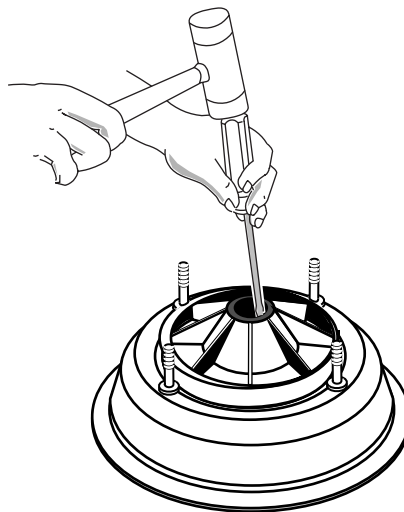

Figure 9
9. Place pump body face down on flat surface and tap out stationary half of seal (See Figure 9).